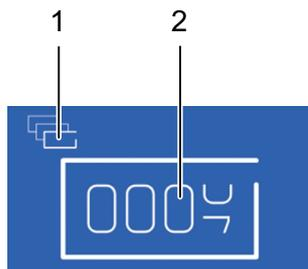

Fig. 33: Button Sub-chapter (1.40 Totalisers, exemplary)
Each sub-chapter is designed as a button that bears both the symbol of the superordinate chapter level (see fig. 33, item 1) and an easily understandable symbol of its subject area (see fig. 33, item 2). Pressing it opens the corresponding parameter level.